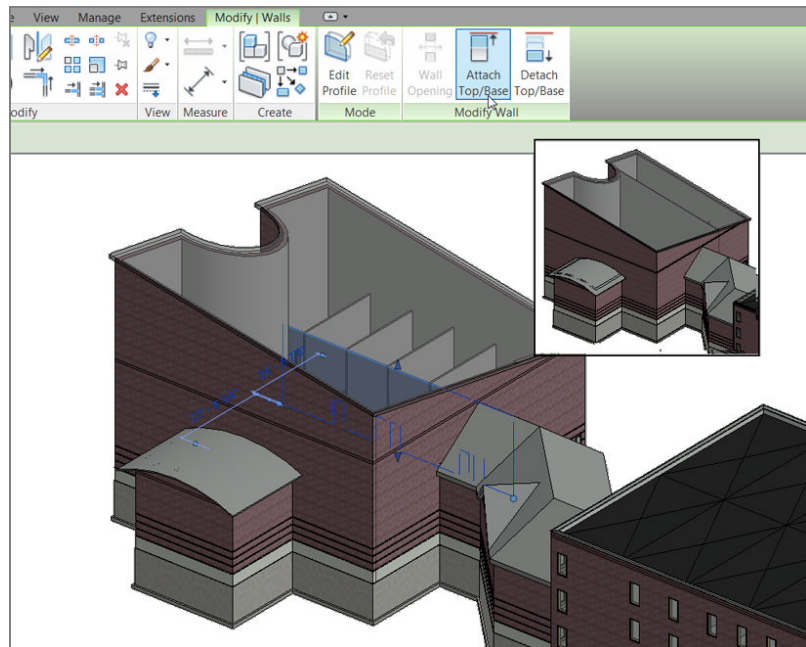

FIGURE 9.11: Attaching the wall to the roof
1. Select the wall shown in Figure 9.11.
Your wall should look like Figure 9.11.